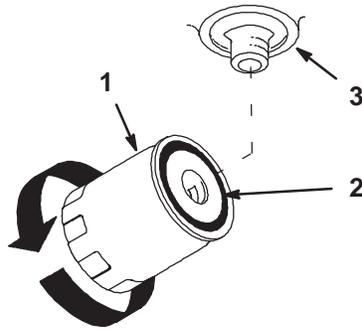

Figure 50
4. Apply a thin coat hydro fluid to the rubber gasket on the replacement filter (Fig. 50).
7. When fluid overflows filter turn the oil filter clockwise until the rubber gasket contacts the filter adapter, then tighten the filter an additional 1/2 turn (Fig. 50).